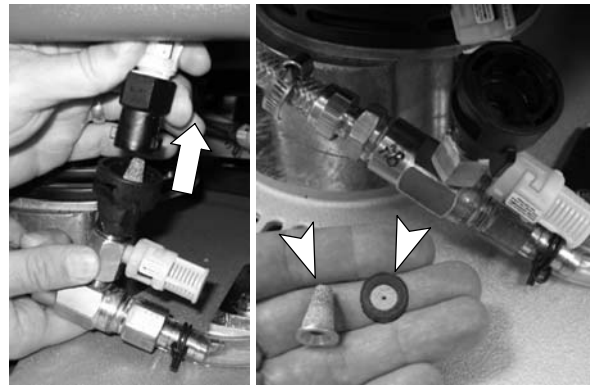

FIG. 50
2. Open the black filter housing and clean or replace the orifice plate and filter (Figure 50).